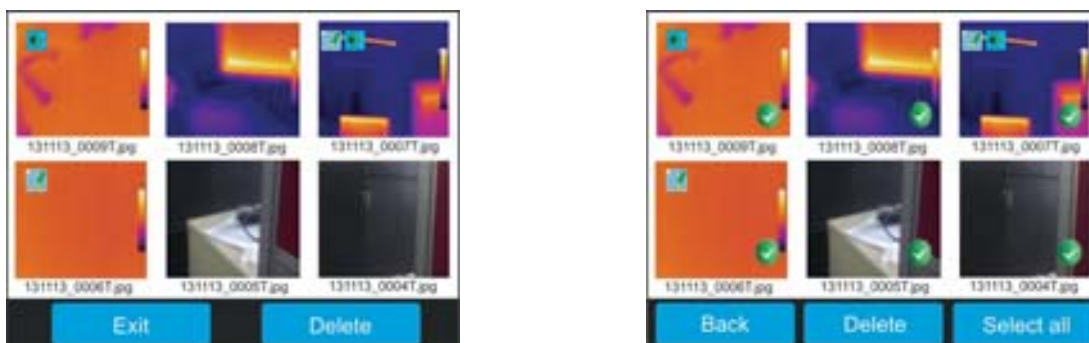

Fig. 67: Selecting and deleting images
1. Touch the icon “**Delete**” inside the image gallery. The following screen (see Fig. 67 – Right side) is shown on the display: